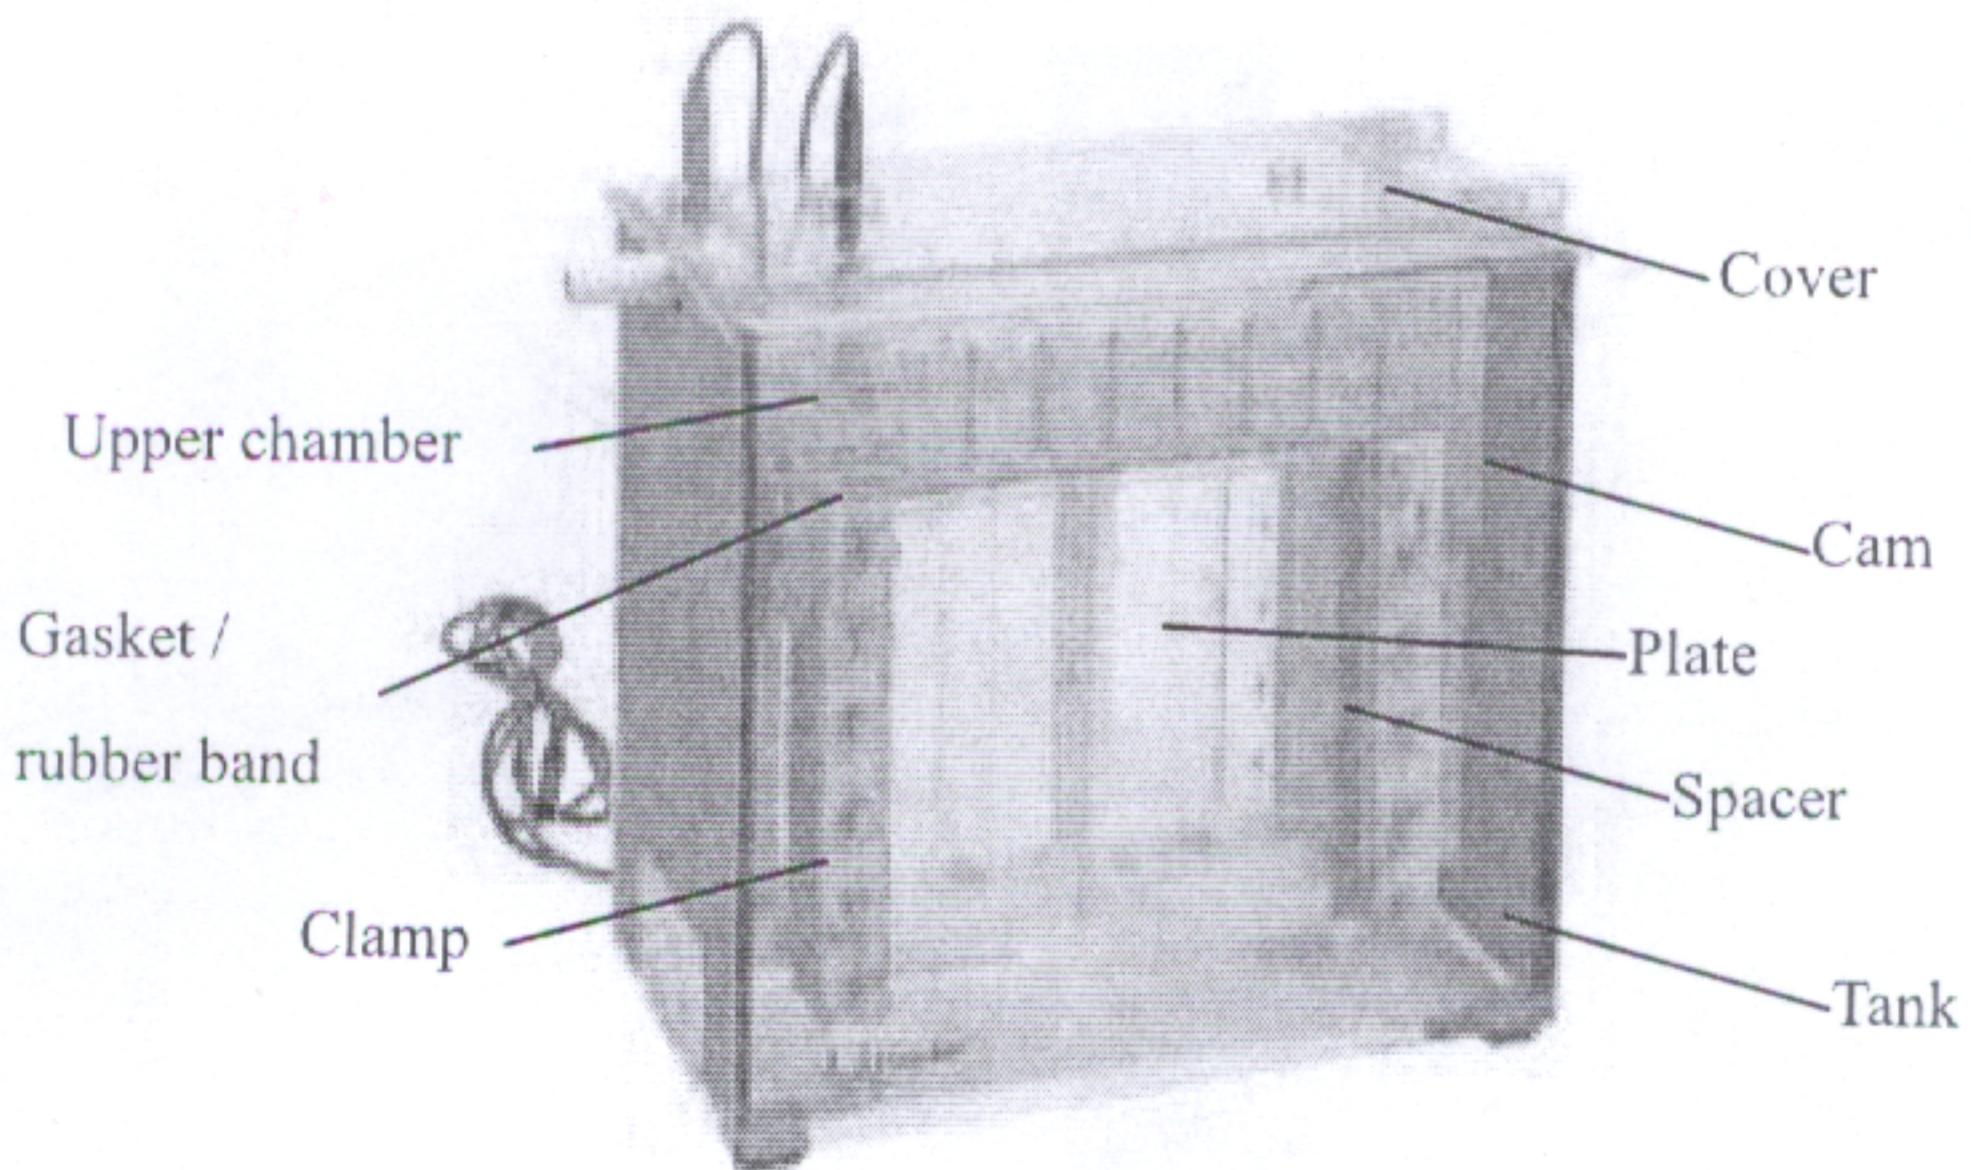

Figure 1. Gel setting schematic.
3. Assemble the gel setting (Figure 1).